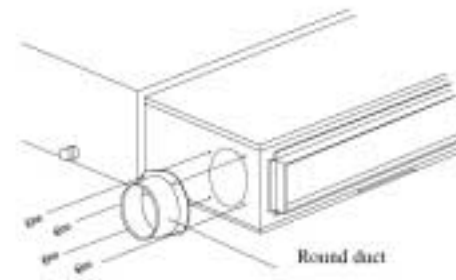

Fig.9
2. Install the circle flange so that the new wind pipe can be connected as Fig.9.